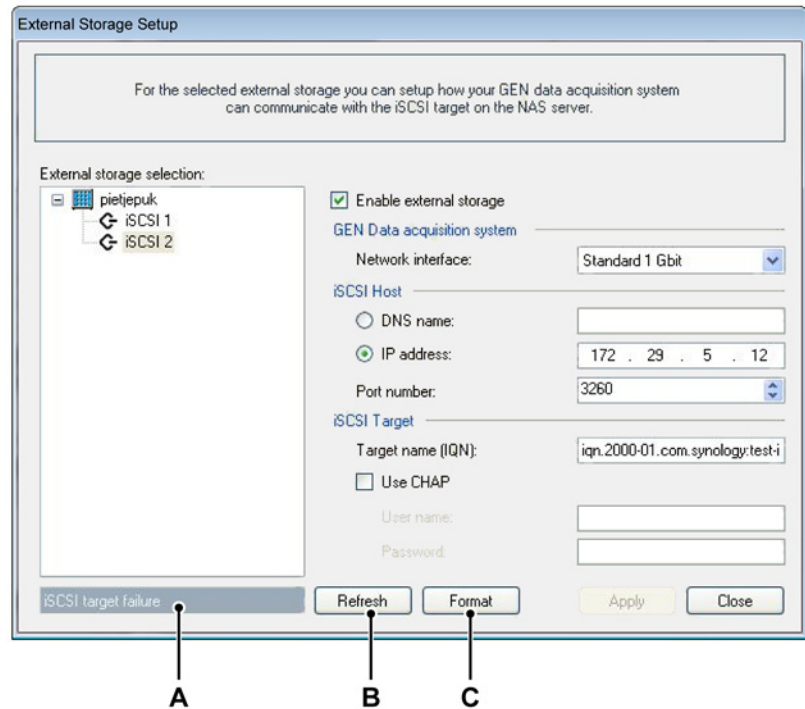

Figure 11.10: External Storage Setup - Refresh/Format option
(See Figure 11.10 - C)
11.4.10 Status messages/troubleshooting (See Figure 11.10 - A)